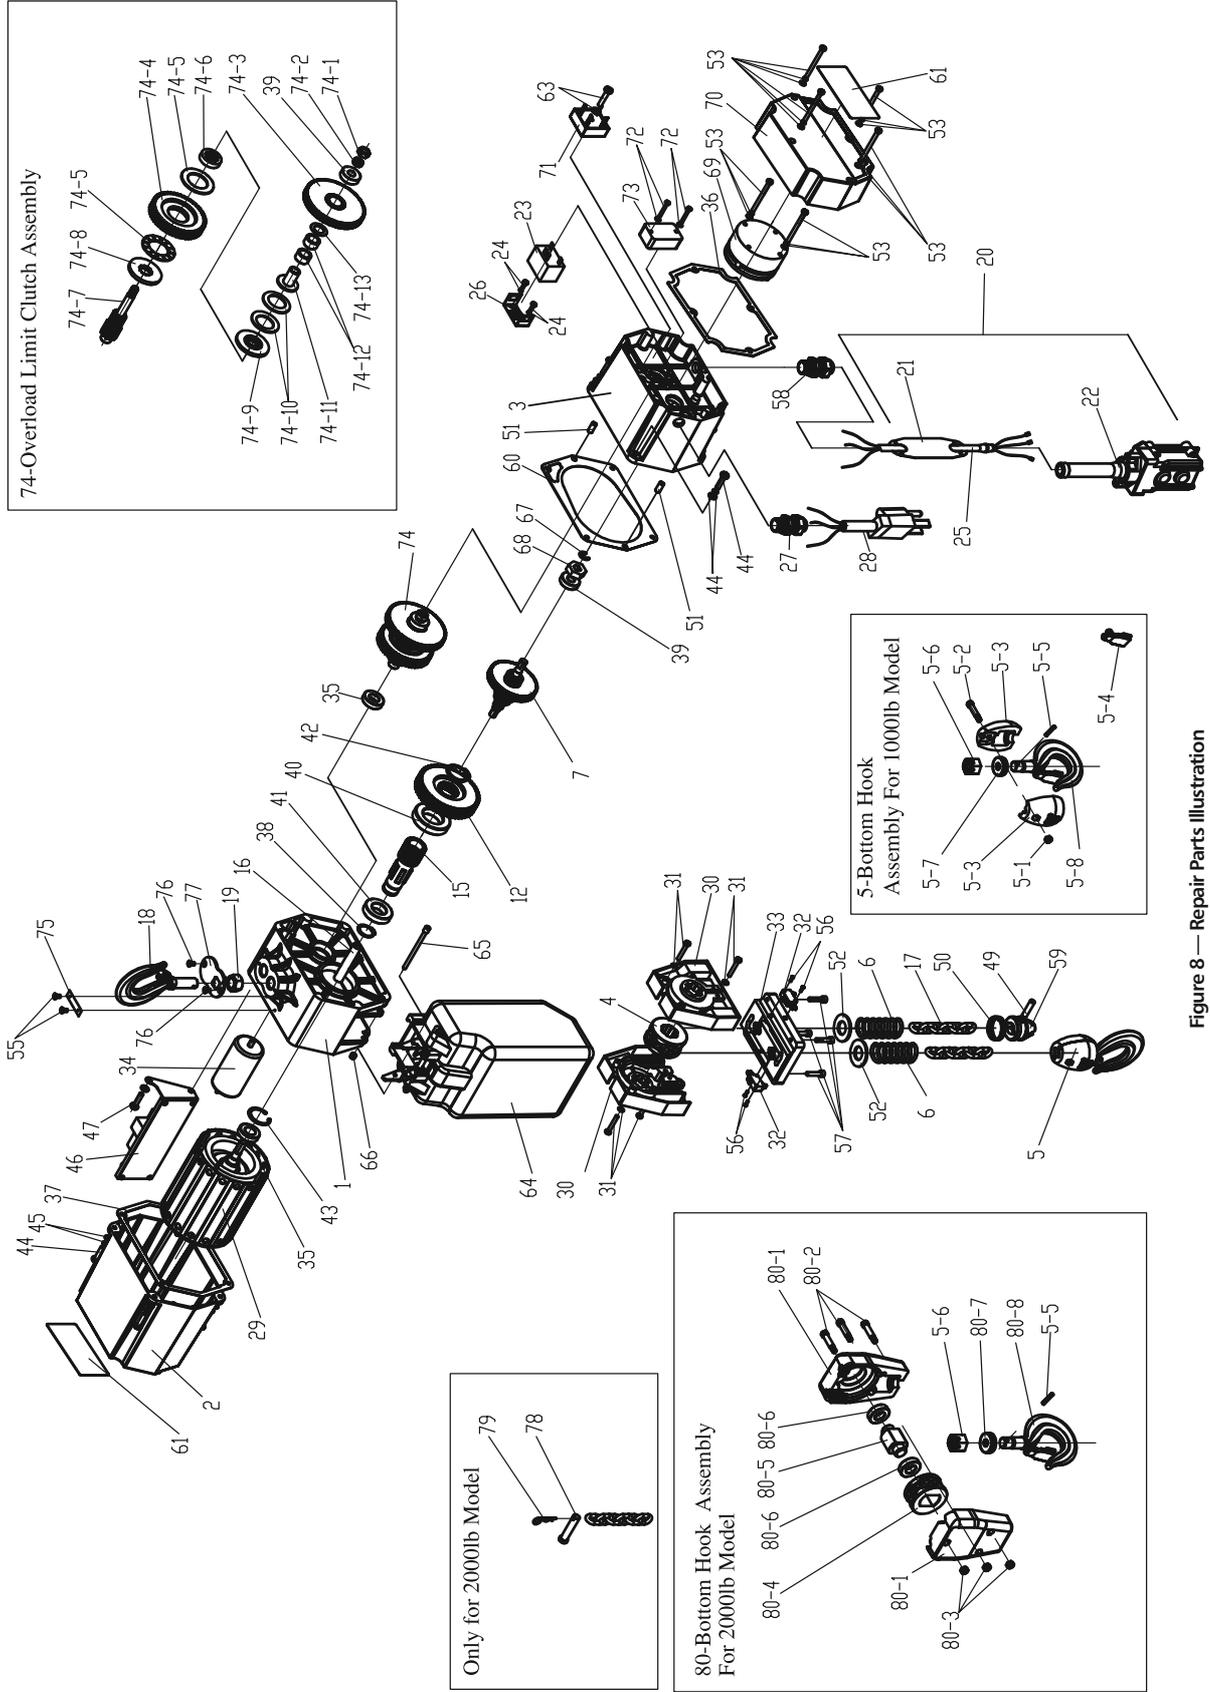

Figure 8 — Repair Parts Illustration
1. Remove lower hook block and chain end block (Fig. 8, Ref. No. 5 & No. 59).
2. Apply a small amount of grease to the bore of the idler sheave. (Fig. 8, Ref. No. 4) in the bottom block.
2. Remove brake cover (Fig. 8, Ref. No. 70).
When the brake is not operating properly, replace the entire brake assembly (Fig. 8, Ref. No. 69).
The overload limit safety clutch has been set to within 1.3 to 1.8 times the rated load of the hoist. Generally, the overload limit safety clutch will not require adjustment. But if the hoist ever fails to lift the rated load while the motor is turning, the overload limit safety clutch must be re-adjusted. Proceed as follows. (Fig 8. Ref. No.74)
3. Disconnect the power source, and remove brake cover and clutch cover. (Fig 8 Ref. No 70 and No 73)